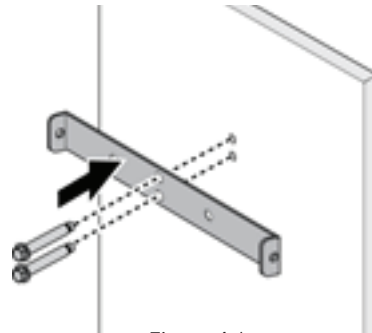

Figure 4-1.
1. See Figure 4-1. Use the supplied template to locate the mounting bracket above the electrical receptacle.